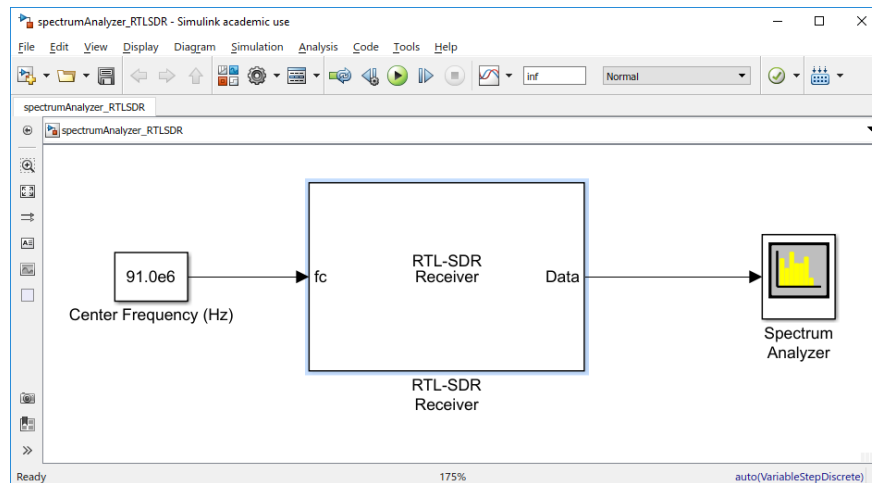

Figure 8: Simulink model for the Spectrum Analyzer.
1. Open a new Simulink model and create the model shown in Figure 8. The specific components you will need are: